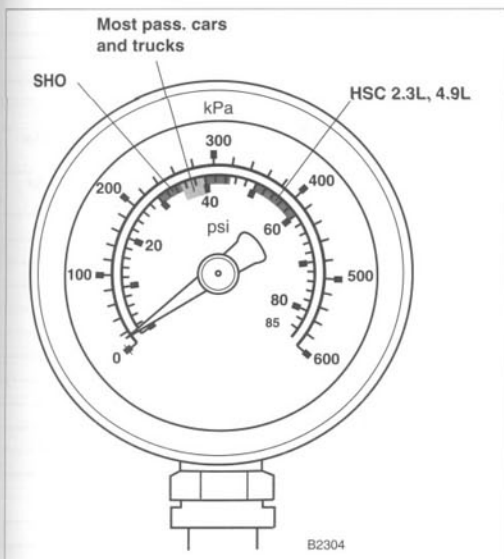

Fig. 2-9. Most Ford fuel injection systems operate at high pressures. Key On Engine Off values shown.
- *Fuel injection systems operate under pressures much higher than other fuel systems. See Fig. 2-9. Confine the fuel spray during any injector testing or opening of fuel lines to minimize the chance of a fire.*